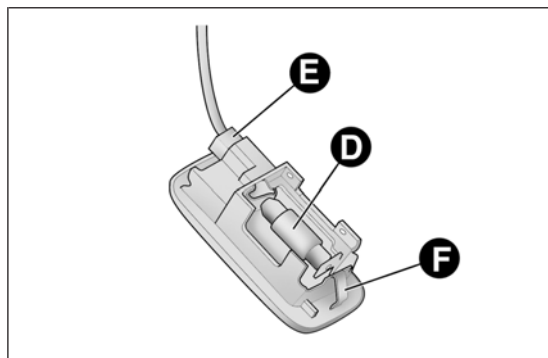

fig. 146
- ☐ remove protection B, releasing it from tabs C, then replace bulb D fig. 146 by pulling it outwards and releasing it from the side contacts;
- ☐ refit the roof light, inserting it first from side E fig. 146, then press on the other side until you hear tab F click into place.